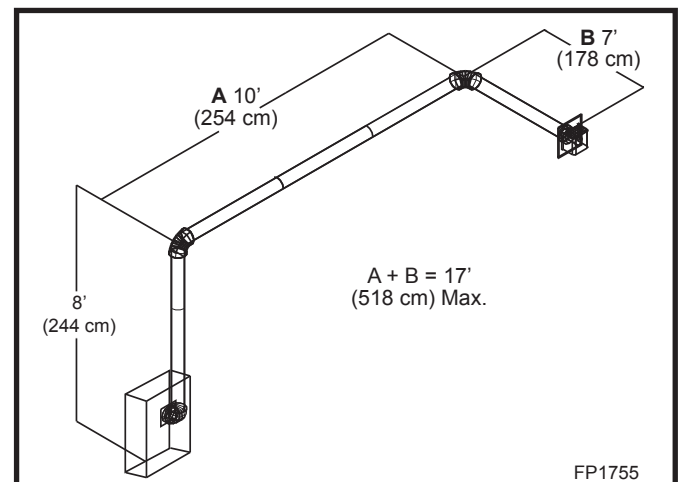

Fig. 21 Maximum vent run with elbows.
- If a 90° elbow is used in the horizontal vent run (level height maintained) the maximum horizontal vent length is reduced by 36" (914 mm). This does not apply if the 90° elbows are used to increase or redirect a vertical rise. (Fig. 21)
**Example:** According to the vent graph (Page 11) the maximum horizontal vent length in a system with a 7.5' (2.3 m) vertical rise is 20' (6 m) and if a 90° elbow is required in the horizontal vent it must be reduced to 17' (5.2 m). In Figure 21 Dimension A plus B must not be greater than 17' (5.2 m).
In Figure 21, dimension A plus B must not be greater than 17' (5.2 m).